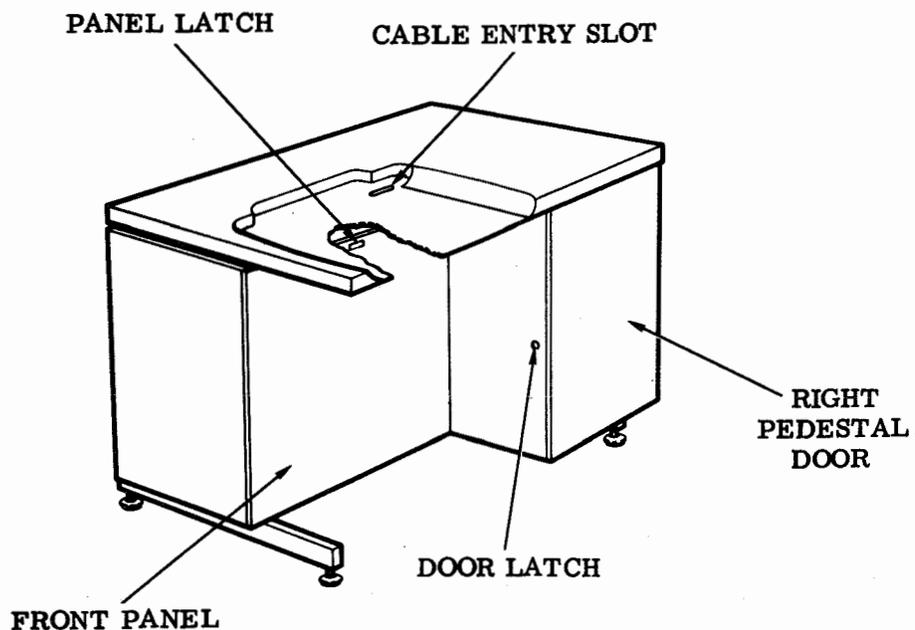

Figure 2 - 37 Teletypewriter Table
Table Access (Figure 2)
4.08 Route the cable connectors shown in Figure 12 from the electrical service unit through the cable entry slot in the table and pan (Figures 2 and 11). Use care to prevent bending of the control panel connector pins when routing through the entry slots. If possible, leave the protective covering on the control panel connectors until the routing is complete.